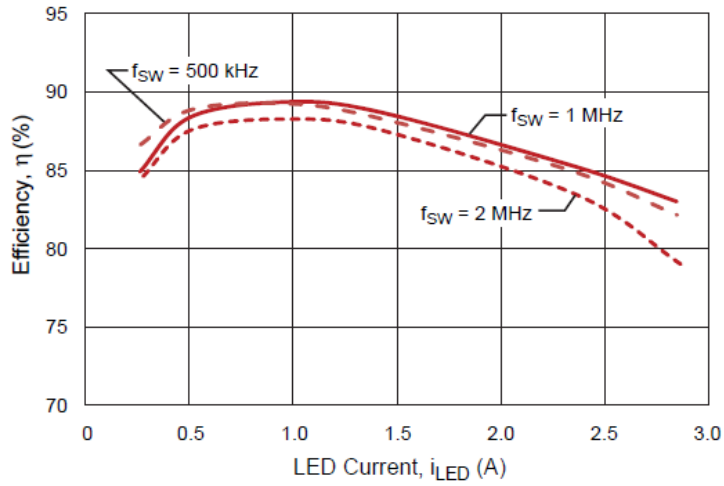

fig.25 Efficiency versus LED Current at various switching frequencies Operating conditions: V_{IN} = 12 V, V_{OUT} = 5.5 V
- 1) Reel packing figure (Refer to fig25)